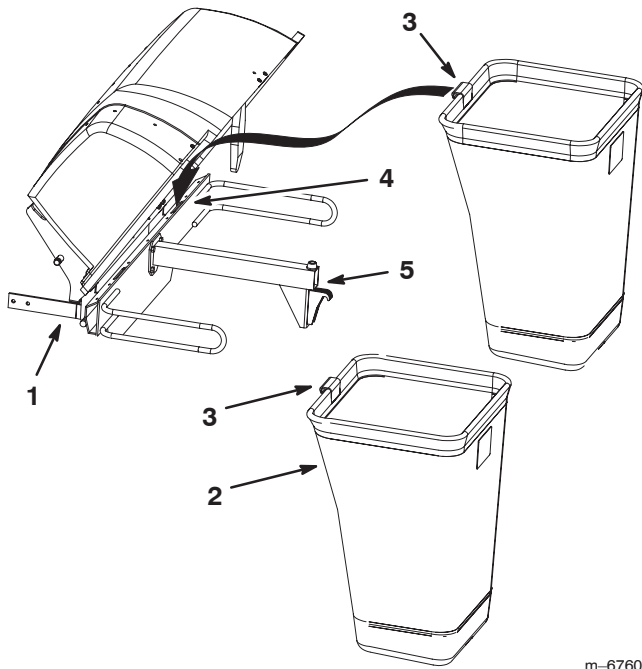

Figure 23
3. Install the bag tab into the notch in the hood assembly (Fig. 23). Do this for both bags.
Note: The bag will rest on the bagger frame (Fig. 23).